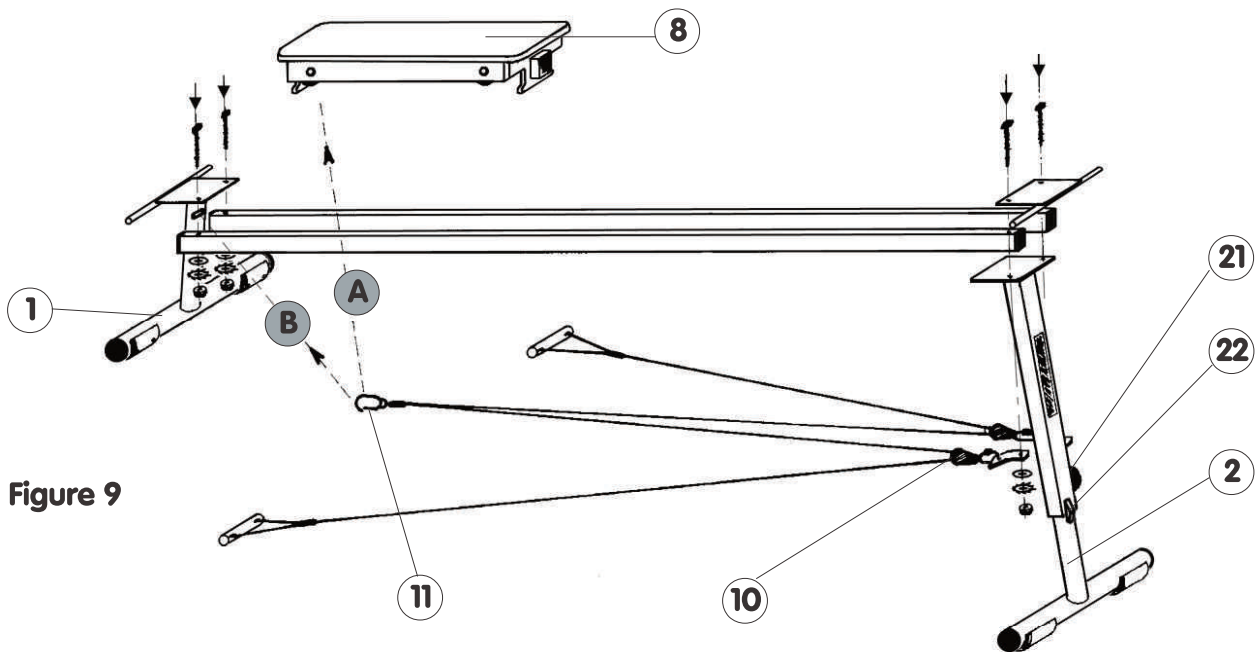

Figure 9
The height of the adjustable leg varies from 0.75 to 1.25 m (2.46 to 4.1'). To adjust it, untighten the thumbscrew (21), unnotch the pawl (22), adjust the sliding tube (2) to the desired distance, notch the pawl (22) into the corresponding hole, and tighten the thumbscrew (21) (see Fig.9).
##### 1 - Options (see Fig 9):